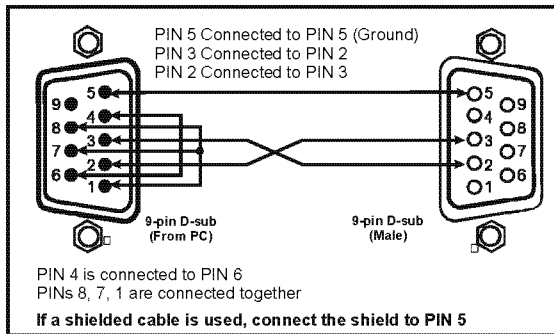

Figure 4: Connecting a PC Without Using a Null-modem Adapter
- Connect the RS-232 9-pin D-sub port on your PC to the RS-232 9-pin D-sub rear panel port on the Master **VS-66HDCP** unit, as Figure 4 illustrates